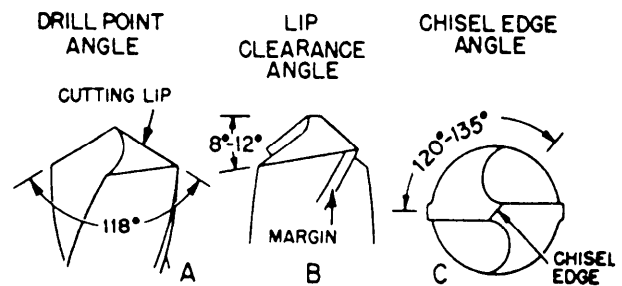

Figure 5-30.—Specifications for grinding a regular point twist drill.
angles must be equal and correctly sized, (2) cutting lips must be of equal length, (3) the clearance behind the cutting lips must be correct, and (4) the chisel-edge angle must be correct. All four are equally important when grinding either a regular point (fig. 5-30) used for general purposes, or a flat point (fig. 5-31) used to drill hard and tough materials.
You determine lip clearance behind the cutting lip at the margin by inspection. This means you look at the drill point and approximate the lip-clearance angle (see figs. 5-30, view B, and 5-31, view B), or compare it to the same angle that has been set on a protractor. The lip-clearance angle is not necessarily a definite angle, but it must be within certain limits. Notice that this angle ranges from 8° to 12° in figure 5-30, view B and from 6° to 9° in figure 5-31, view B. Whatever angle in the range is used, however, lip clearance should be the same for both cutting lips.
When you grind lip clearance, use the lip-clearance angle and the chisel-edge angle (shown in figs. 5-30, view C and 5-31, view C) as your guide to the amount of clearance you have ground into the drill behind the cutting lip along its entire length. The greater these angles are, the more clearance there will be behind their respective ends of the cutting lip. Too much lip clearance occurs when both the lip-clearance angle and the chisel-edge angle exceed their top limits. This weakens the cutting edge or lip by removing too much metal directly behind it. Too little or no lip clearance prevents the cutting edge from producing a chip, and the drill bit will not drill a hole.